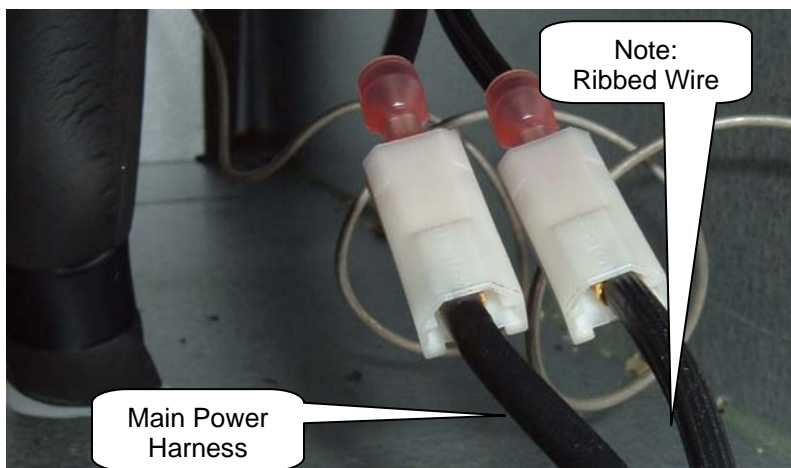

Figure 7
29. Align the male fan connectors to the female fan connectors of the Main Power Harness shown in Figure 7. When connecting, align ribbed wires with ribbed wires, smooth with smooth.